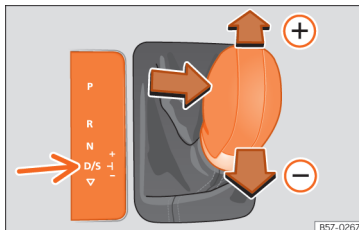

Fig. 142 Lever in the Tiptronic position
- Push the lever forwards (+) or backwards (-) to move up or down a gear »» Fig. 142.